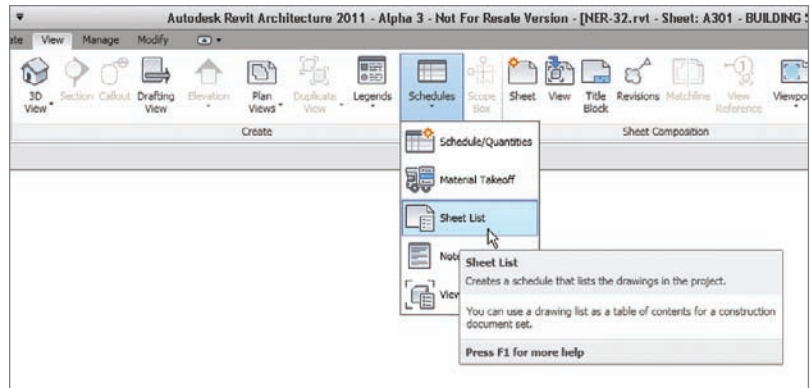

FIGURE 14.23 The Sheet List button on the View tab
1. On the View tab, click Schedules > Sheet List, as shown in Figure 14.23.